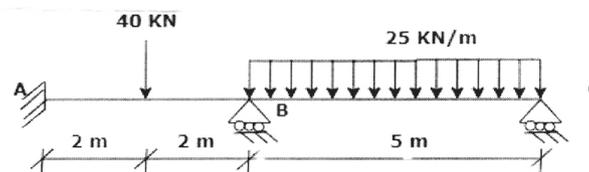

Figure 7
- Q5) a) Analyze the beam shown in figure 7 by Stiffness Matrix Method. [12]